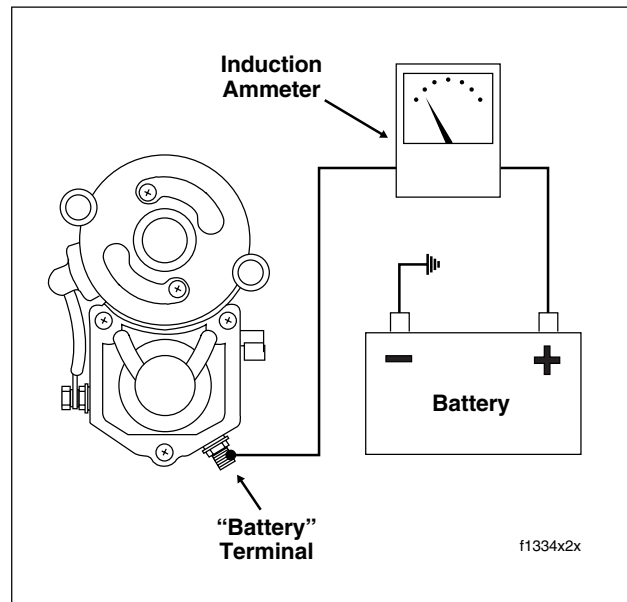

Figure 1-4. Starter Current Draw Test
3. Clamp induction ammeter over the positive battery cable. See Figure 1-4.